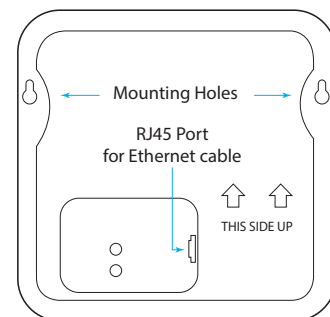
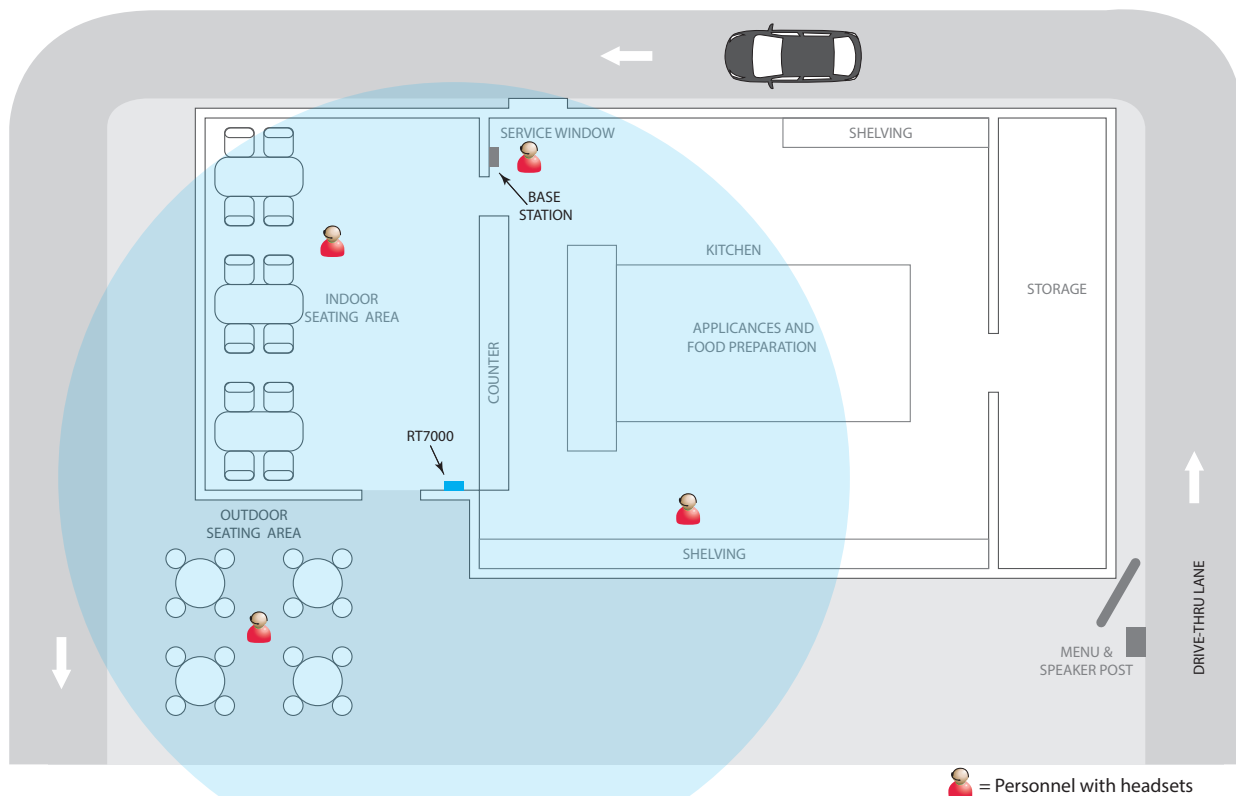

Fig. 2.4
Fig. 2.10
- Selecting an appropriate location for the remote transceiver is critical (see Fig. 2.10 and 2.11). Also read about the “Remote Transceiver (RT7000)” on page 14 under Component Notes and review the Critical Steps in the following instructions.
5. **Critical Step:** Loosely mount and connect the RT7000 (Fig. 2.4 & 2.5) in a central location for optimal coverage (until range tested in steps 9 & 10 with the Installation Wizard). For example, notice Fig. 2.10 and 2.11. They show two different store layouts with specific targeted areas where the headsets are primarily used. In these examples, the location selected for the RT7000 (represented by the small blue rectangle) provides the best coverage, as indicated by the blue-circled areas. Each store required the RT7000 to be mounted in a different, yet central, location to provide the best all-around coverage tailored to the store's needs. Store layout and obstructions also affected placement and range. (see "Component Notes" on page 15 for more details on the RT7000 placement).